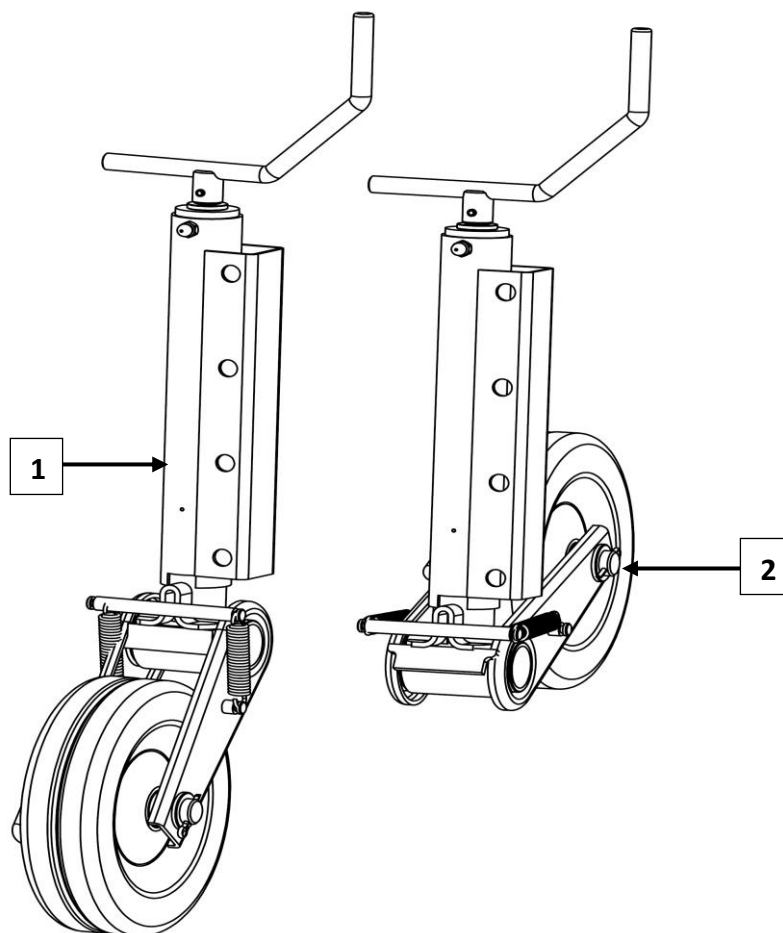

Fig. 17. Support of trailer's drawbar.
- Set the transport wheel to transport position as shown in fig. 17. Take special caution – crushing hazard.